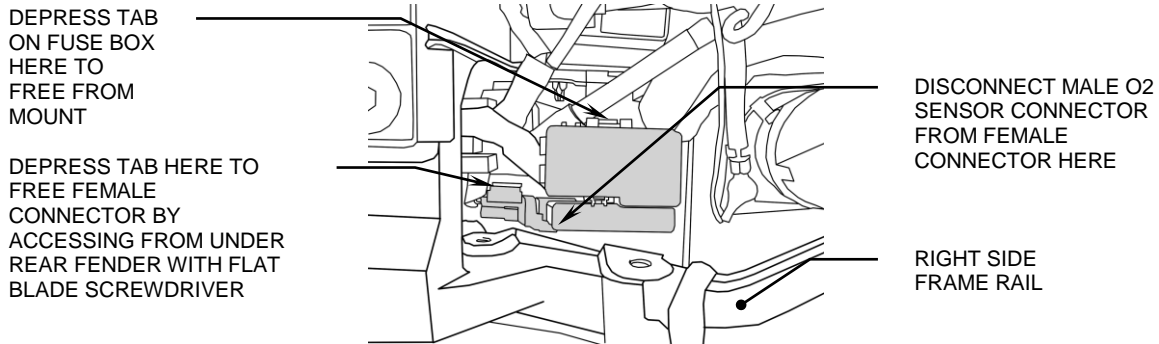

FIGURE 3
5. Locate the oxygen sensor on the muffler body near the power valve and trace the wire on it back up to under the seat, where it's male and female connectors are located. Move the fuse block out of the way, by depressing the plastic tab between the housing and the steel-mounting tab, and pull it upward out of the way to gain access to the oxygen sensor connectors mounted on the plastic tab. Disconnect the oxygen sensor by pulling the tab on the female connector outward and pulling the male connector towards the front of the bike. The female part of this connector must also be freed from its mounting location by depressing the plastic mounting tab that secures it on its plastic mount, see Figure 3. This may be done with a small flat blade screwdriver accessed from under the rear fender, pull the connector rearward to free it. Once this female connector is free, pull it rearward and downward towards the rear of the bike.
6. Remove the stock upper rear exhaust-mounting bracket secured by (1) M8 buttonhead screw, and (2) M8 hex head flange bolts. Remove the front, and rear flange nuts securing the exhaust headpipes to the engine, retain all pieces for later use during reassembly of Cobra exhaust.